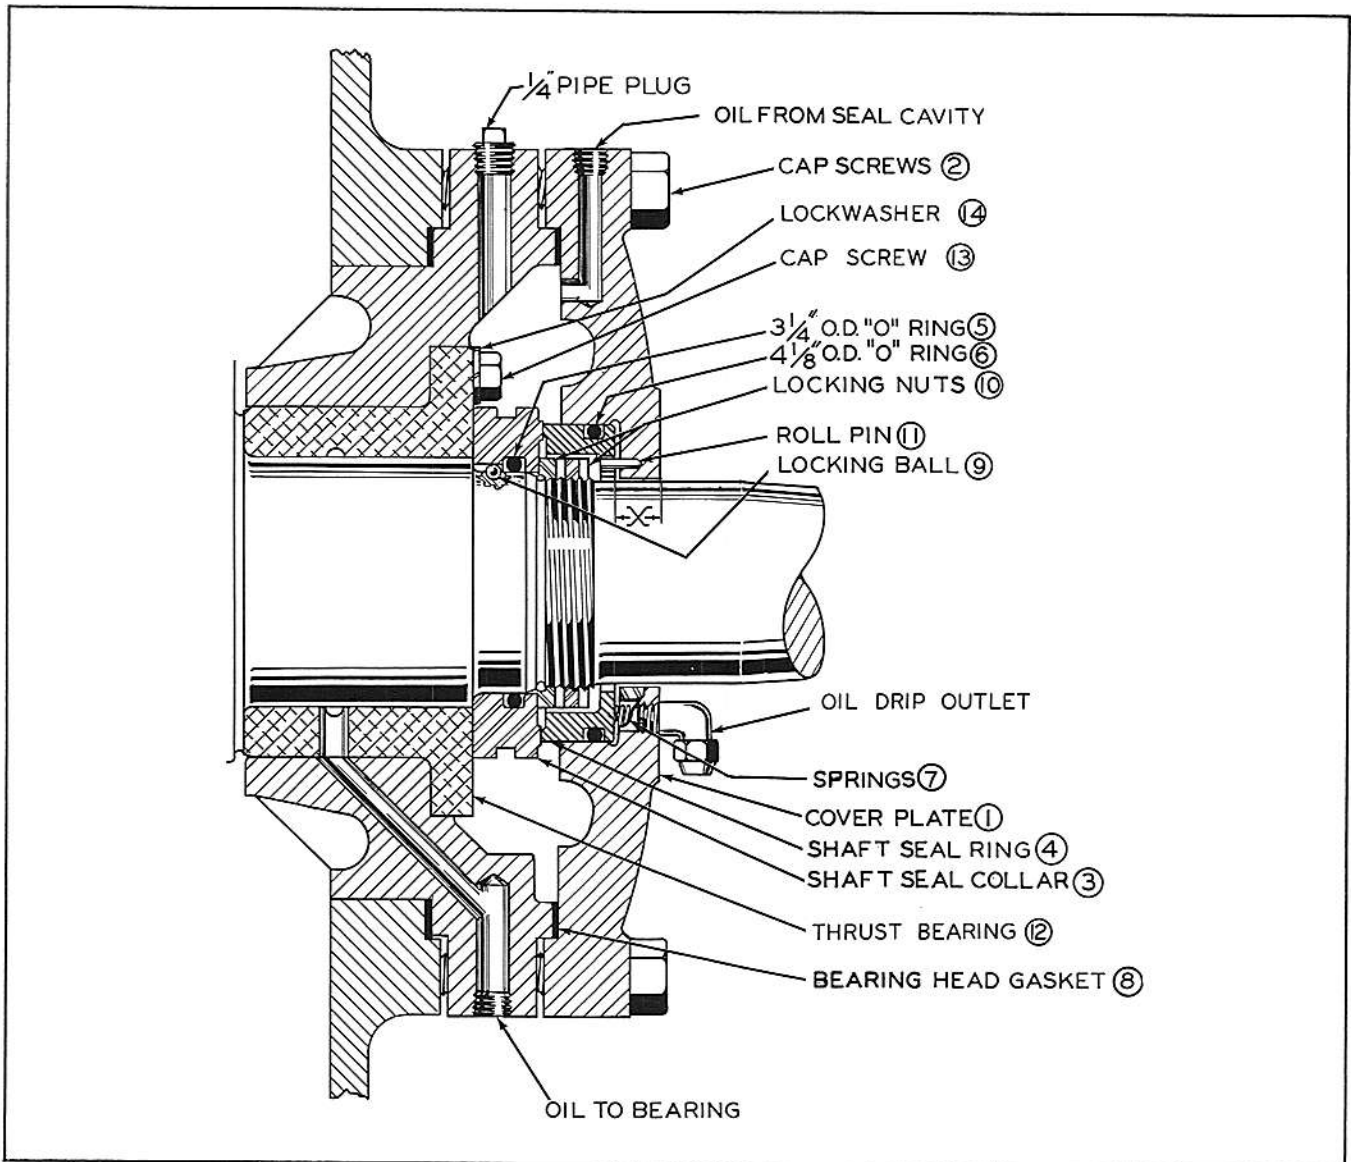

Fig. 34 - Sectional View of Shaft Seal
PARTS LIST, Fig. 34
top of the cover plate and then remove the cover plate, and shaft seal ring as one unit (See Figs. 34 and 35)
Thrust Bearing - Seal End (See Fig. 34)
- (b) Measure the clearance (see Fig. 34) between the thrust side of the seal collar and aluminum bearing thrust face with the feeler gauge. Minimum clearance .003", maximum clearance .006".